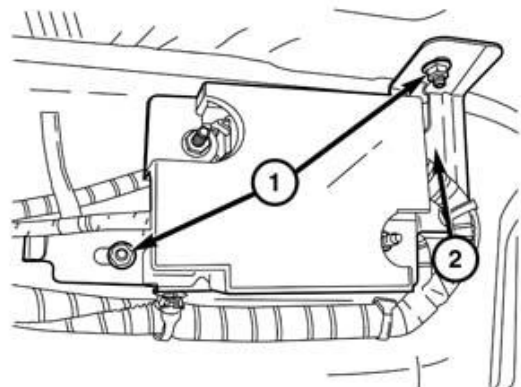

Figure 5 – NOx Sensor Mounting Bracket
10. Remove the nuts (1) and the module mounting bracket (2) (Figure 5).